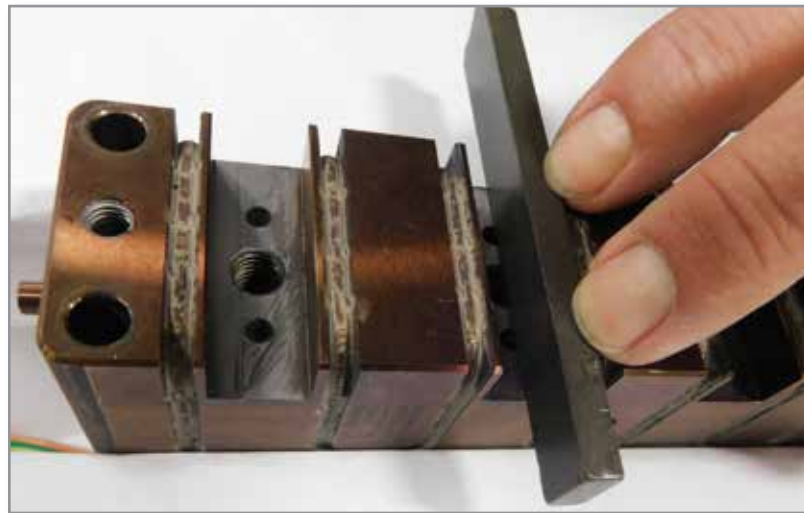

Figure 5-87 Clean manifold interfaces
2. Clean the manifold interfaces with a fine grade (400 or 600 grit) polishing stone. See Figure 5-87.
7. Clean the manifold interfaces on Melt-Cube using a fine polishing stone. See “Figure 5-87 Clean manifold interfaces” on page 5-144.